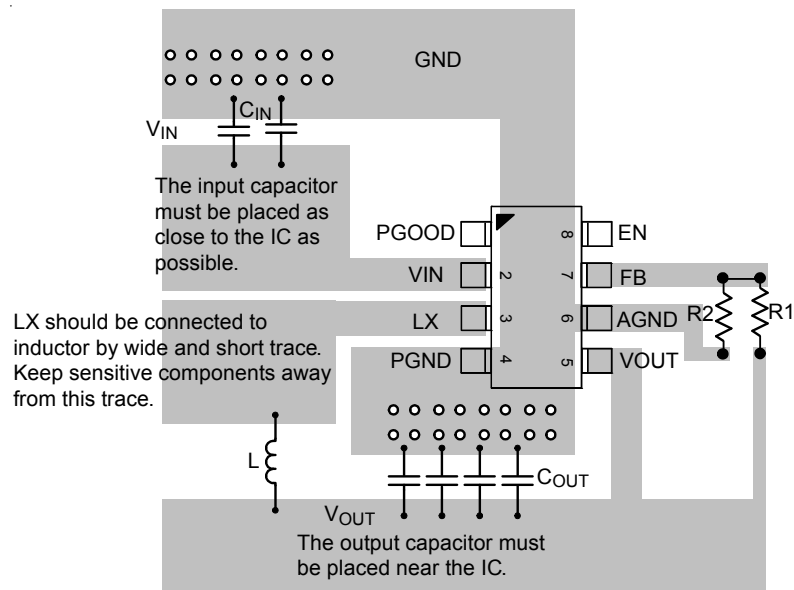

Figure 6. TSOT-23-8 (FC) PCB Layout Guide
- Avoid using vias in the power path connections that have switched currents (from C_{IN} to GND and C_{IN} to VIN) and the switching node (LX).
An TSOT-23-8 (FC) example of PCB layout guide is shown in Figure 6 for reference.